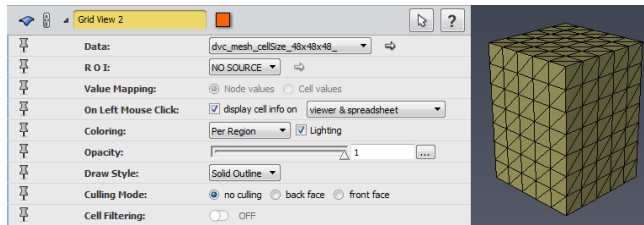

Figure 23.11: Grid View Module Properties and Tetrahedral Grid Visualization
5. Visualize the mesh by attaching a *Grid View* module to the created mesh `dvc_mesh_cellSize_48x48x48_`. Set the *Draw Style* port to *Solid Outline* to visualize the elements (see Figure 23.11).